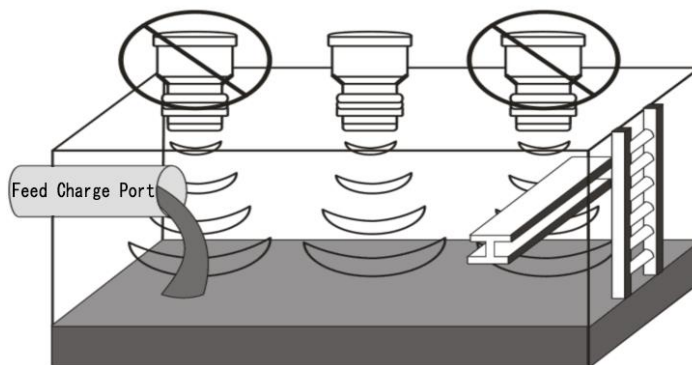

Figure 1
1. Sensor should be placed where there is no obstacle between emission surfaces and measured liquid, it also should be far way from feeding ports, as Figure 1.